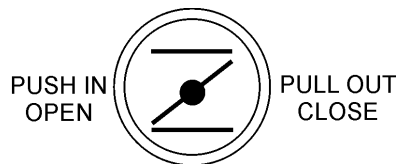

Figure 19. Choke Knob
1. Place the choke knob (Figure 19) in the **CLOSED** position if starting a cold engine.
2. Place the choke knob (Figure 19) in the **OPEN** position if starting a warm engine or if the temperature is warm.
5. If the engine has started, slowly return the choke knob (Figure 19) to the **OPEN** position. If the engine has not started repeat steps 1 through 4.